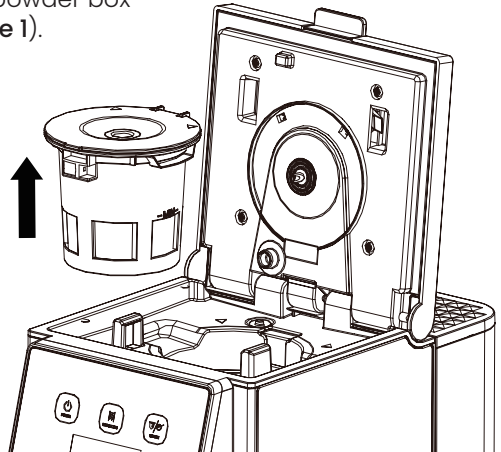

Figure 1
1. Open the top cover and take out the powder box assembly to clean it separately (Figure 1).